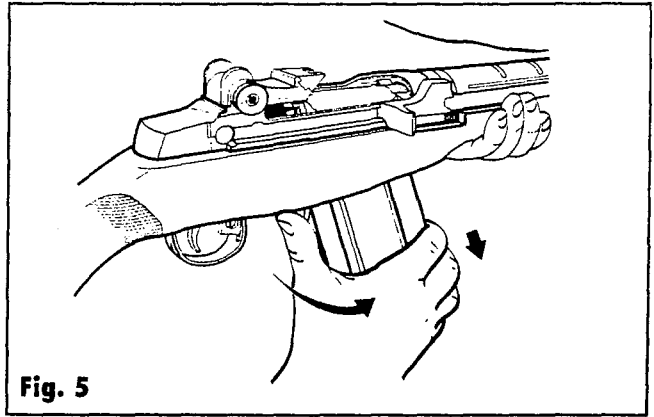

Fig. 5
1. Place the gun on safety, point it in a safe direction, and remove the magazine. Push the magazine release with your thumb and rock the magazine down and forward [see figure 5].